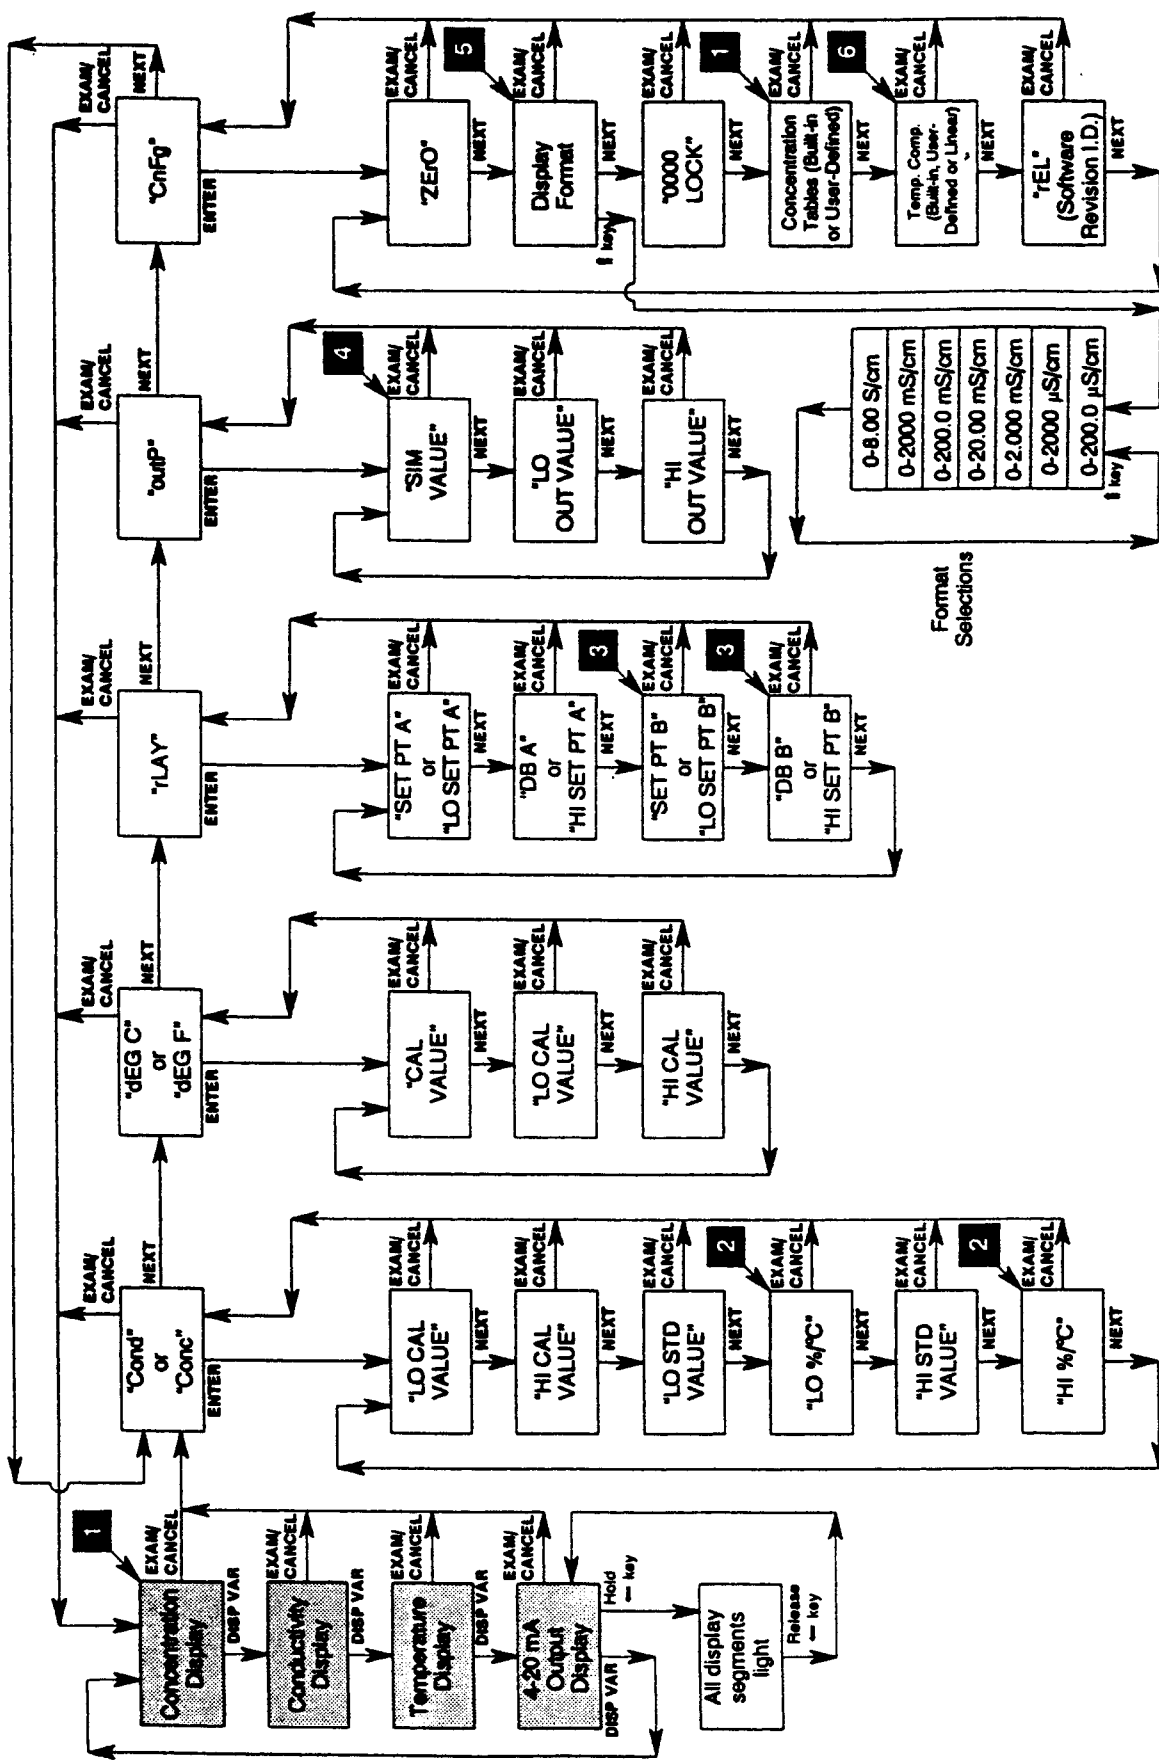

FIGURE 3-2 Display Modes And Call-up Chart Of Setup Variables
25. BATTERY jumper (Figure 3-2)
Figure 3-2 on the following page shows the four measured variable display modes (shaded boxes at top left of chart), the five menus of setup variables (across top of chart), and the call-up order of the setup variables within each menu. Depending on selected DIP switch settings, specific setup variables are not displayed and do not apply (see footnotes at bottom of chart).
3. Press **NEXT** key once to access the display format setup variable (display indicates one of the format selections shown in Figure 3-2).